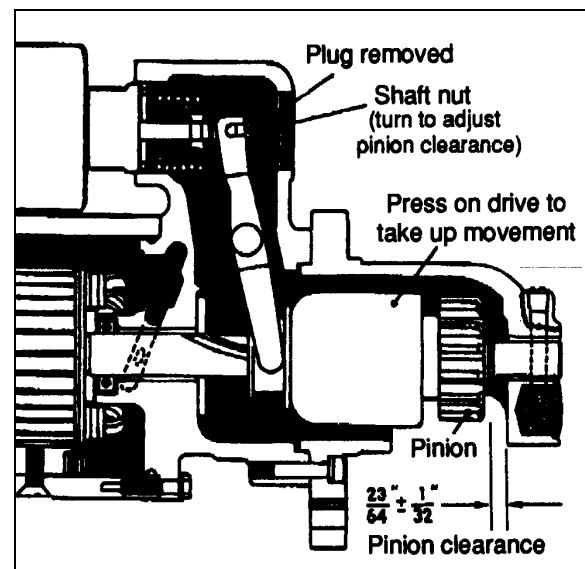

FIGURE 39: PINION CLEARANCE
Pinion clearance should be checked after reassembly of motor to ensure the clearance is within specifications. To check pinion clearance (starting motor off engine), first disconnect the motor field connector from the solenoid motor terminal. Connect 24 volt battery with the positive battery lead to the solenoid switch terminal (5), and the negative battery lead to the grounded (G) solenoid terminal. Momentarily flash a jumper lead from the solenoid motor terminal to the grounded (G) solenoid terminal. The pinion gear will now shift into cranking position and remain that way until the battery is disconnected. Push the pinion or drive back towards the commutator end to eliminate slack movement. Measure the distance between pinion and pinion stop. This should be  $23/64" \pm 1/32"$  (9,5 mm  $\pm$  0,79 mm). Pinion clearance is adjusted to these limits by turning the solenoid shaft nut after removing access plug in shift housing. See figure 39.